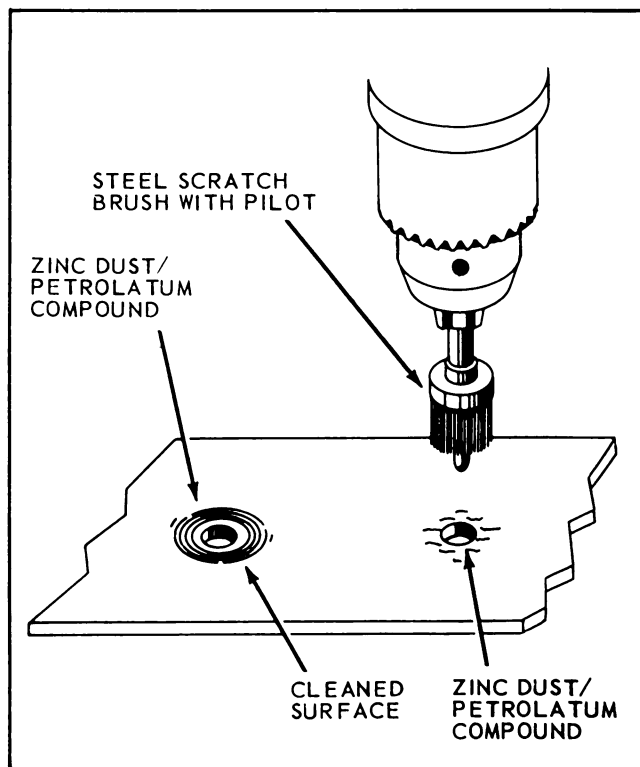

Figure 8-1. Scratch Brushing Unplated Aluminum Alloy Bus Bars
- Scratch brush the coated areas, using a rotary steel wire brush with a pilot as shown in Figure 8-1. Brush through the compound.